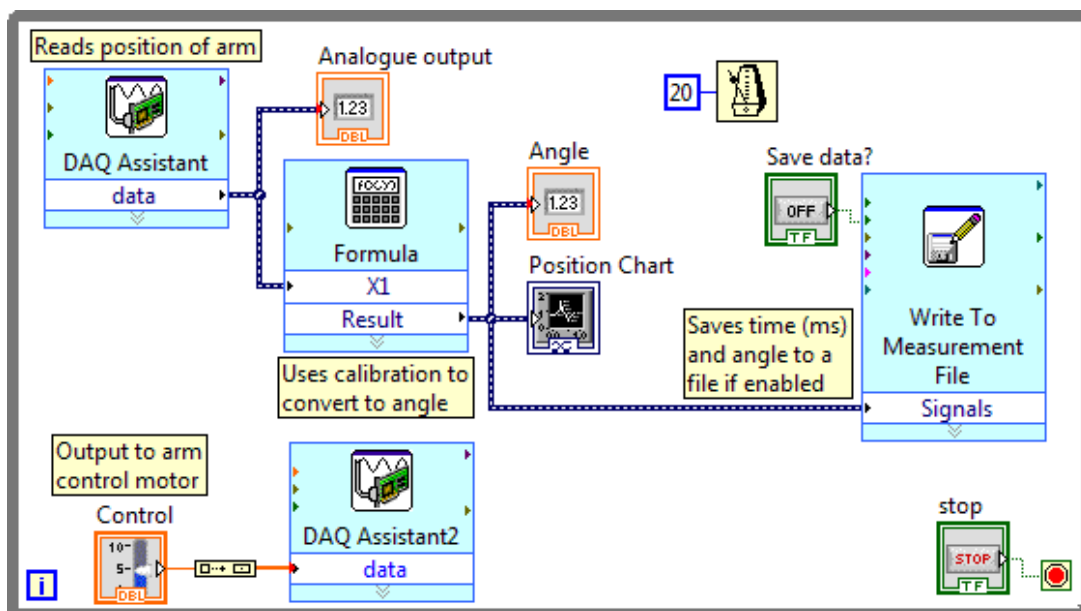

Figure 4 Calibrated routine for moving arm experiment, with output for time-angle data
2. You need to understand the damping of your system before you add control mechanisms. Investigate the behaviour of the system with no feedback control. You will need to output the time and angle data to a file. Figure 4 shows a suggested block diagram using Dynamic Data to save angle and timing information to a file (the output to the arm control motor is useful for setting the equilibrium angle to the centre). The delay value should be tested; your system may work best with a smaller delay.